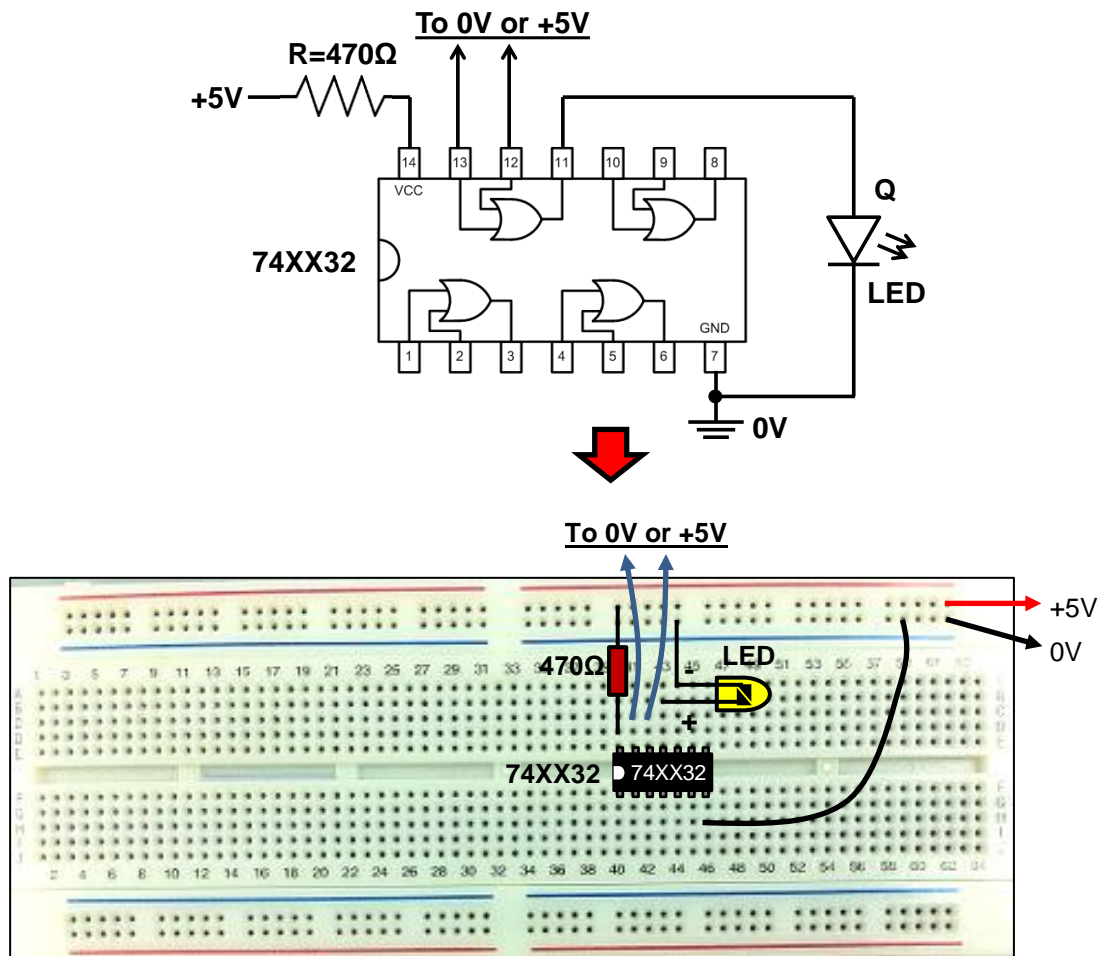

Figure 11
1. Place the components and wires/jumpers on a breadboard as shown in Figure 11. Note: 74XX32 is an OR gate chip, where XX can be HC, LS or AC. **CAUTION:** Do not touch the pins of the LED while placing it on the breadboard. Otherwise, the pins may break.